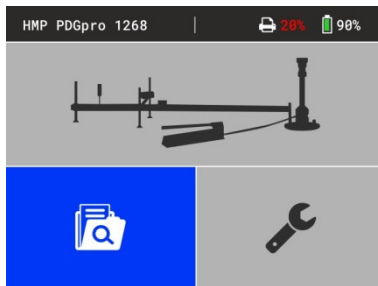

Figure 10
- ⇒ The main menu (Figure 10) appears on the screen with type & number of device (xxxxx) and state of charge of the measuring instrument in status line as well as the several menu buttons in main area of display.